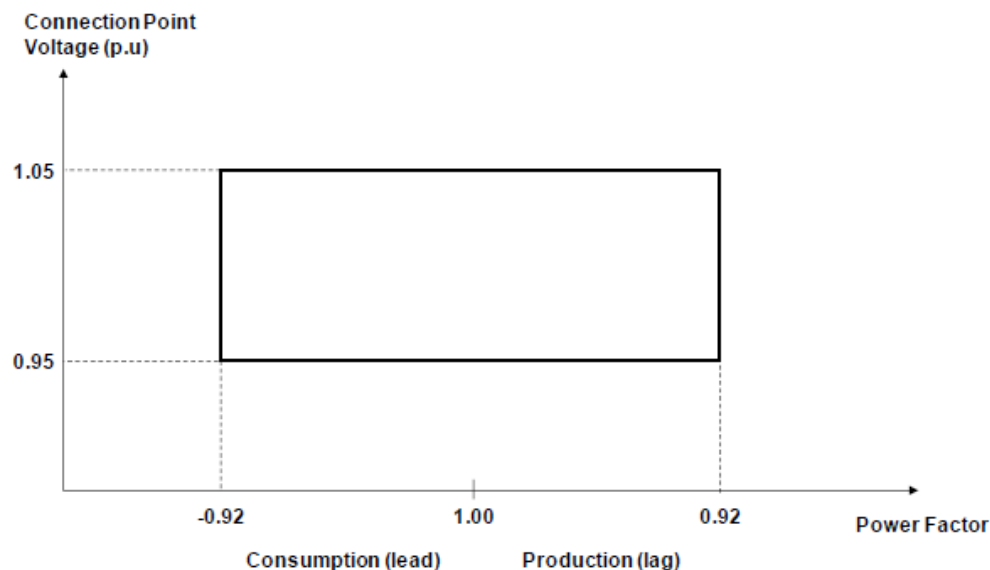

Figure 13.10 Reactive Power capability requirements (Synchronous Power Generating Modules)
- All Synchronous Power Generating Modules shall be capable of satisfying the Reactive Power capability defined in Figure 13.10 at Active Power output levels from the Registered Capacity to the level of Minimum Generation